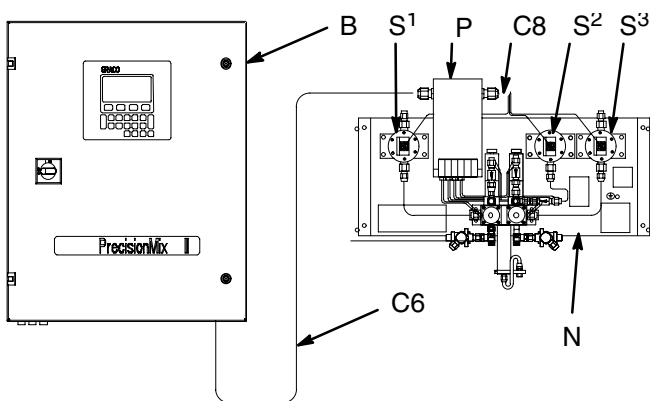

Fig. 3.10
1. 50 ft. (15.2 m) of cable (C6) is supplied, connecting the fluid panel solenoid box (P) and the PrecisionMix II controller (B). See Fig. 3.10.